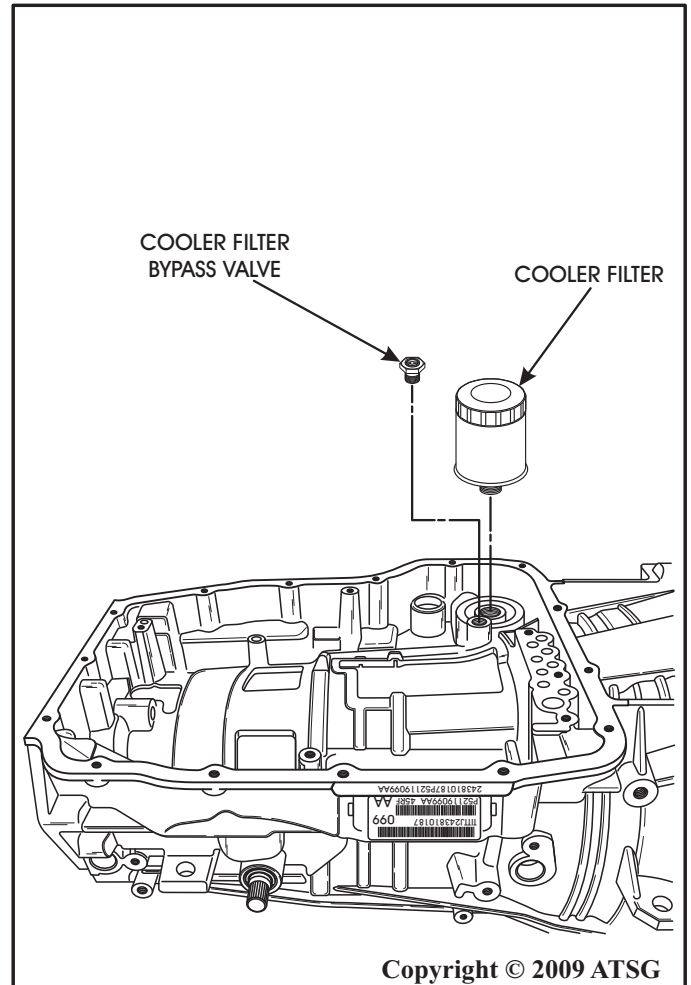

Figure 35
16. Remove and discard the cooler oil filter from the transmission case as shown in Figure 35.
17. Remove the cooler by-pass valve from case, as shown in Figure 35.